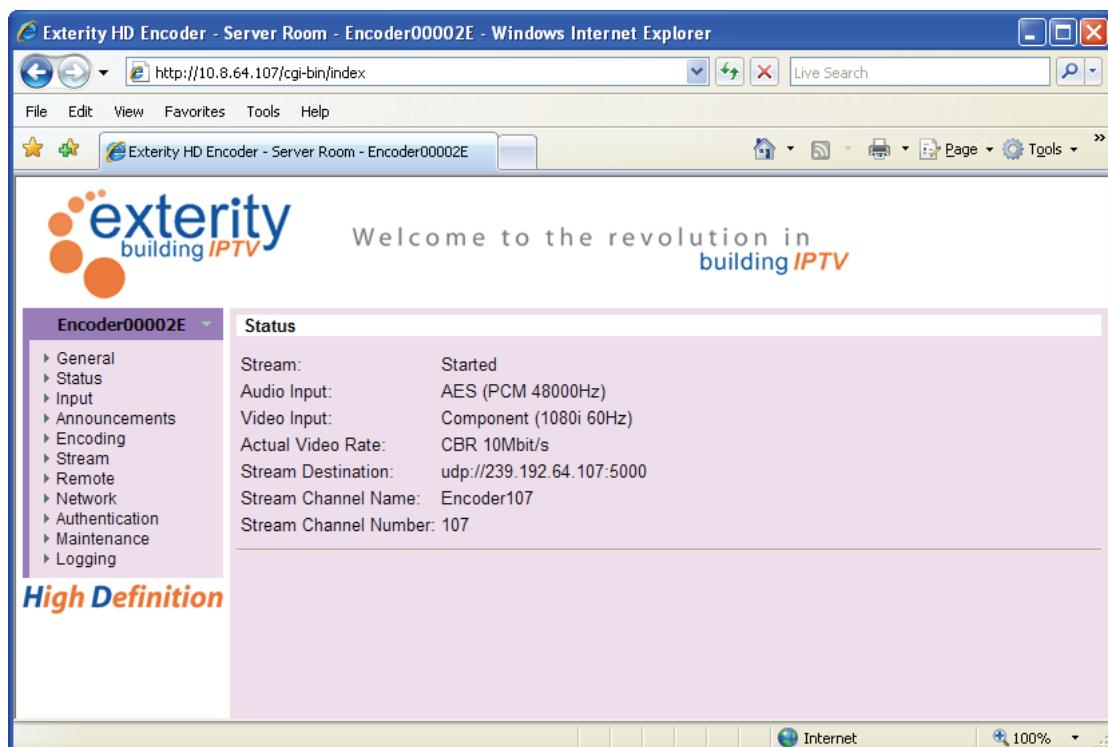

Figure 6 Web Management Interface displaying an AvediaStream e3520 encoder
2. The Web Management Interface opens in your browser, as shown below in Figure 6: